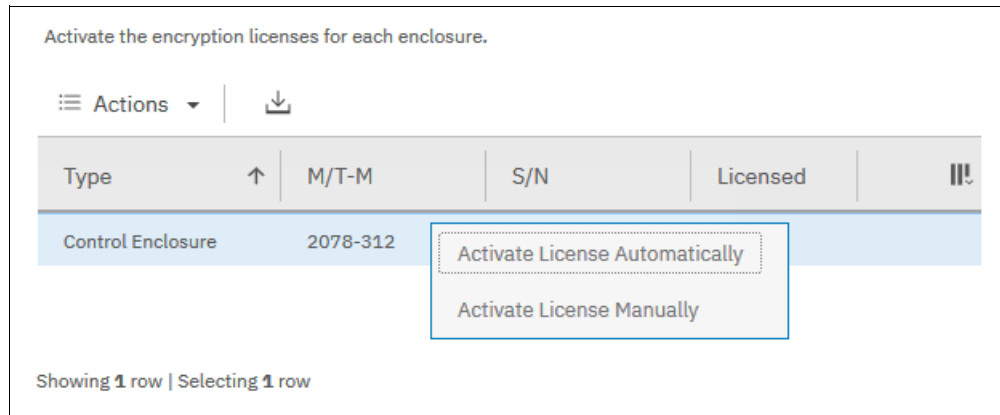

Figure 13-7 Selecting license activation method
- Right-clicking the node opens a menu with two license activation options (Activate License Automatically and Activate License Manually), as shown in Figure 13-7. Use either option to activate encryption.